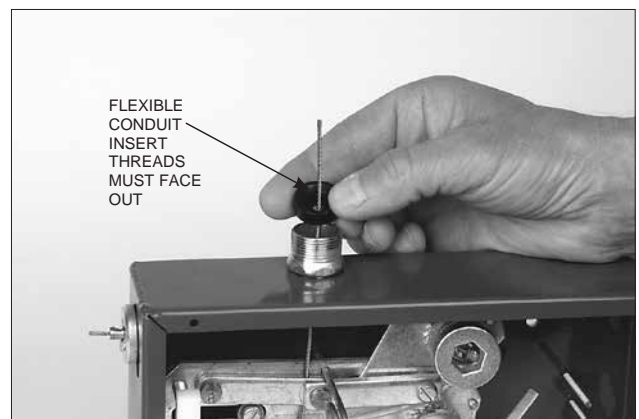

FIGURE 4-42
4. Thread the stainless steel wire rope through the EMT conduit connector and flexible conduit insert. Make certain thread in flexible conduit insert is facing out toward end of connector. See Figure 4-42.